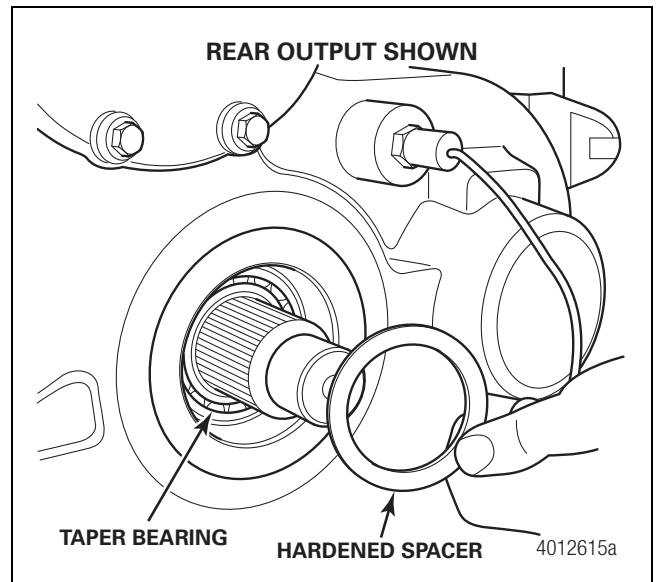

Figure 5
- Install the hardened spacer, part number 1244A4239, over the output shaft and place it directly in front of the output shaft taper bearing. Figure 5.